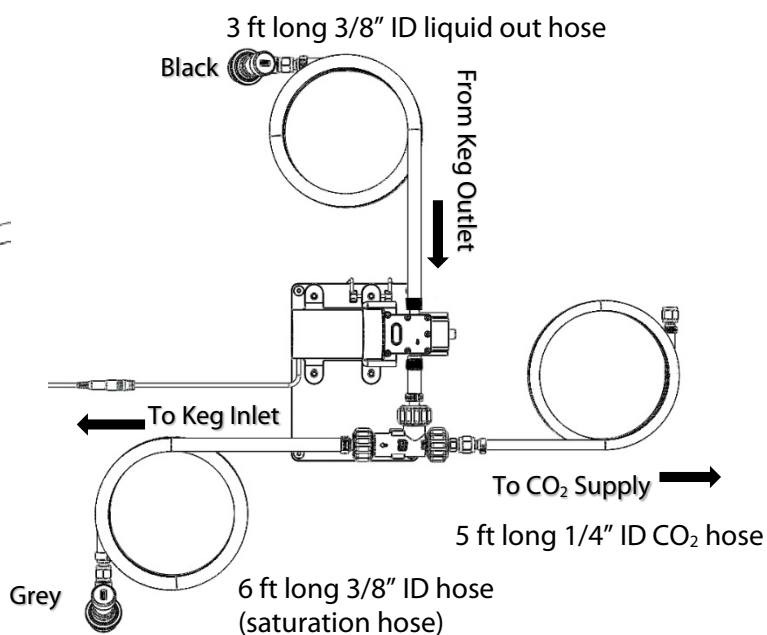

Figure 2.
2. Connect the CO₂ Supply hose to CO₂ regulator and tighten CO₂ supply hose fittings with wrenches (Figure 2).